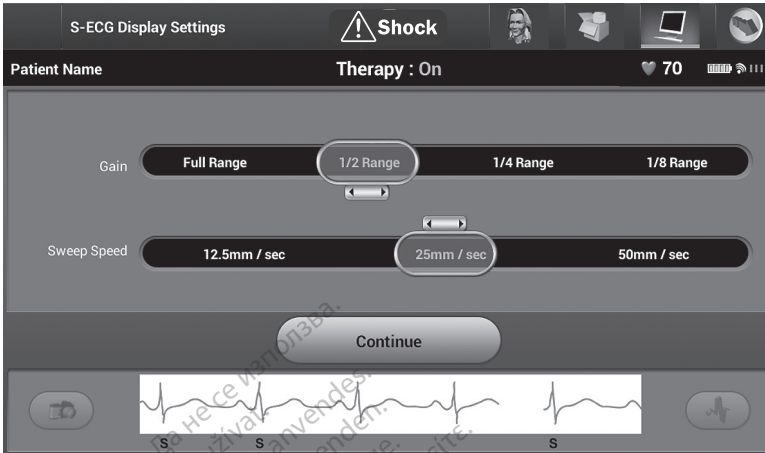

Figure 30. Adjusting Gain and Sweep Speed
2. Select and drag the Gain or Sweep Speed Scale bars as desired (Figure 30 Adjusting Gain and Sweep Speed on page 46). The S-ECG scale will change according to the selected setting. The gain setting controls the visual gain. The Programmer defaults to Full Range for pulse generators with a gain setting of 1x and to 1/2 Range for pulse generators with a gain setting of 2x. The Sweep Speed slider controls the display speed of the scrolling Live S-ECG. The nominal sweep speed setting is 25 mm/sec.